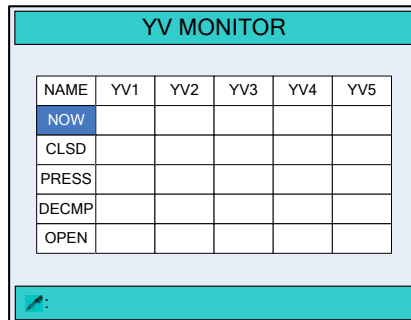

Figure 3-9 The **YV MONITOR** page
- On the **CONST** page, press  two times to enter **YV MONITOR** page, as shown in Figure 3-9.